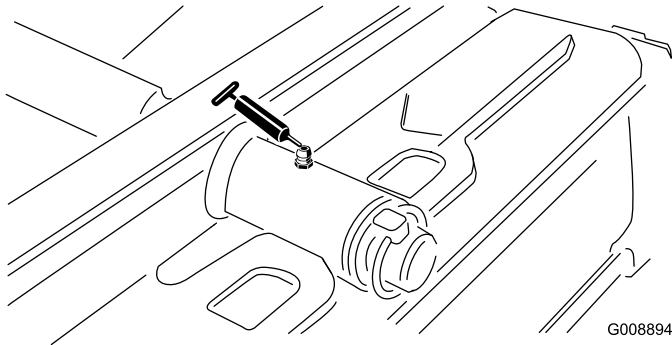

Figure 36
- Rear cutting unit pivot (Figure 36)